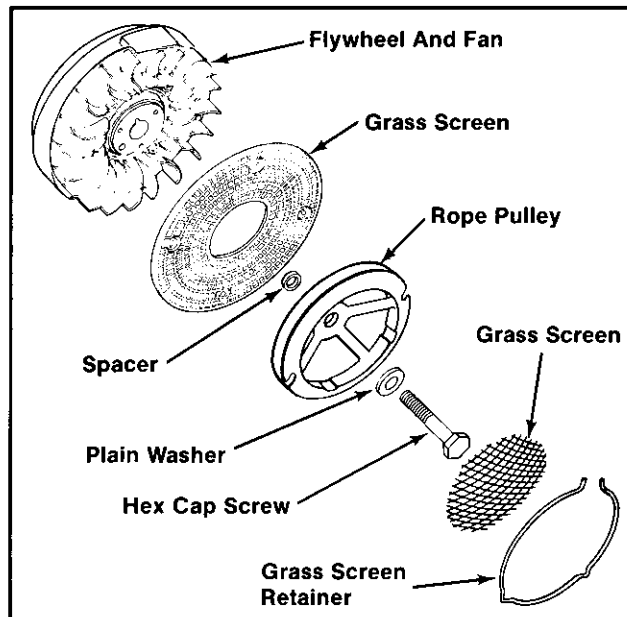

Figure 10B-20. Removing Grass Screen, Rope Pulley, and Flywheel — Rope Start Models.
2. Hold the flywheel with a strap wrench and loosen the hex cap screw (Refer to Figure 10B-19). Remove the hex cap screw, plain washer, rope pulley, and spacer. Remove the nylon grass screen from the fan. Refer to Figure 10B-20.